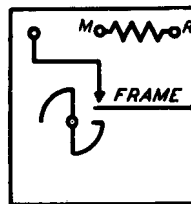

FIG. 34 - WINDING TERMINAL ARRANGEMENT AS VIEWED FROM THE REAR (TERMINAL SIDE) - 34 TYPE SIGNAL
4.05 The winding terminal designations of signals as viewed from the rear are shown in Figs. 34, 35 and 36.